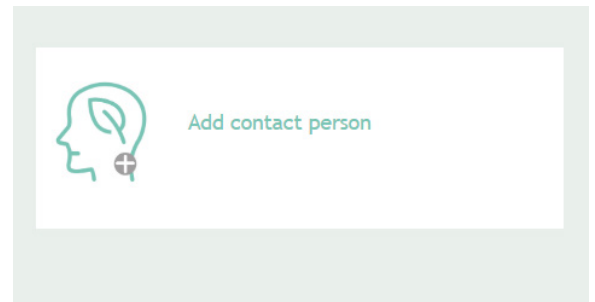

Figure 1
2. Tap on 'Add contact person' as shown in figure 1.